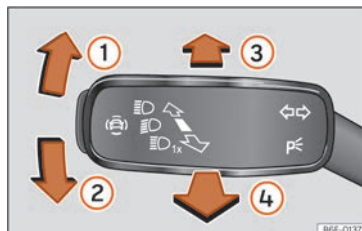

Fig. 74 Turn signal and main beam lever.
- From the base position, press the turn signal and main beam headlights lever forwards >>> Fig. 74 .
- **EITHER:** if main beam assist is on, pull the turn signal light and main beam headlights lever back >>> Fig. 74 .